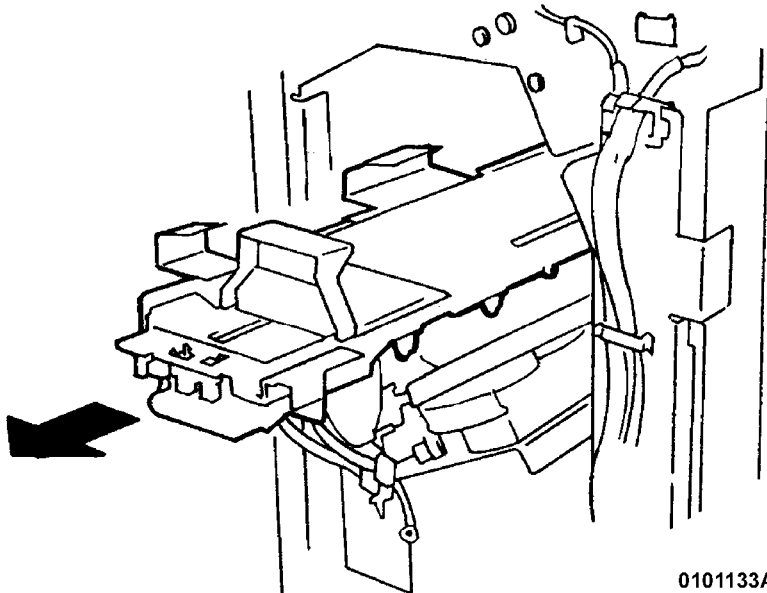

Figure 7 Removing Compiler Tray Assembly
8. Remove the Compiler Tray Assembly (Figure 7).